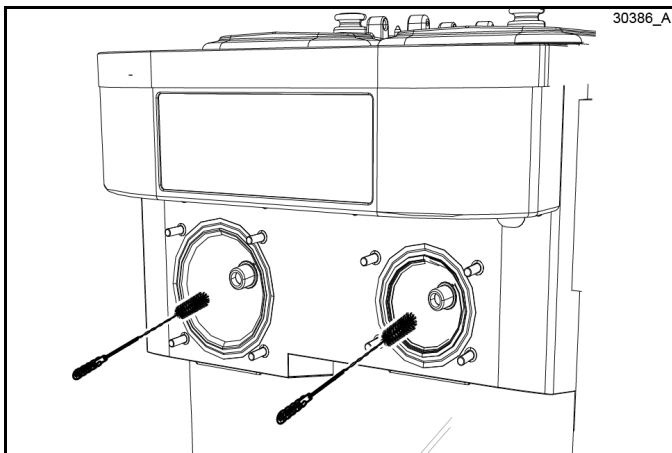

Figure 6-58
3. Return to the freezer with a small amount of cleaning solution. Using the black brush, clean the rear shell bearing at the back of each freezing cylinder. (See Figure 6-58.)